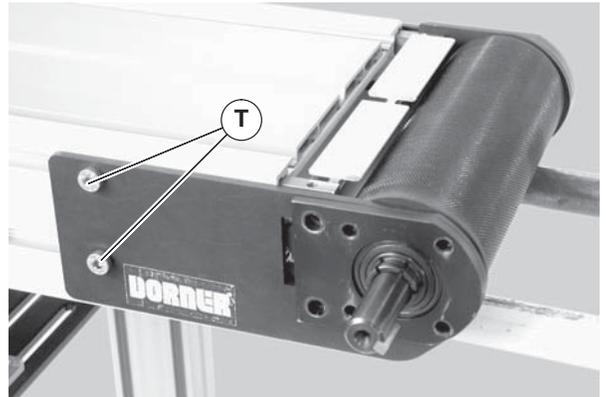

Figure 52
6. On the drive headplate, remove two (2) screws (Figure 52, item T). 60 in-lb (7 Nm)